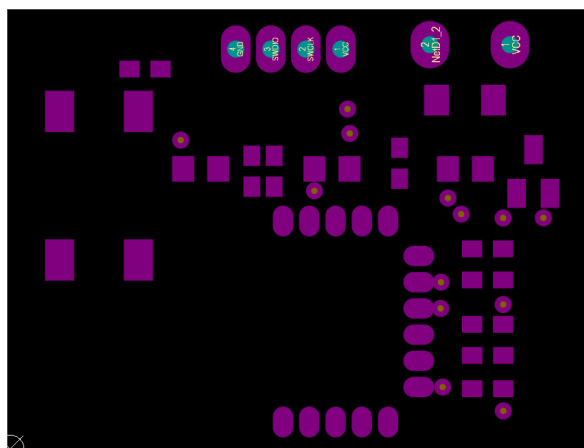

Figure 10. Top Solder Mask
- Figure 10. Top Solder Mask 7